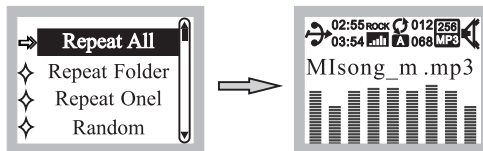

Fig. 11
- (F) Repeat Mode: Press PRV/TEN  or NEXT/TEN  to select parameter, Fig. 11.
- (1) Repeat All:  .
- (2) Repeat Folder:  .
- (3) Repeat One:  .
- (4) Random:  .